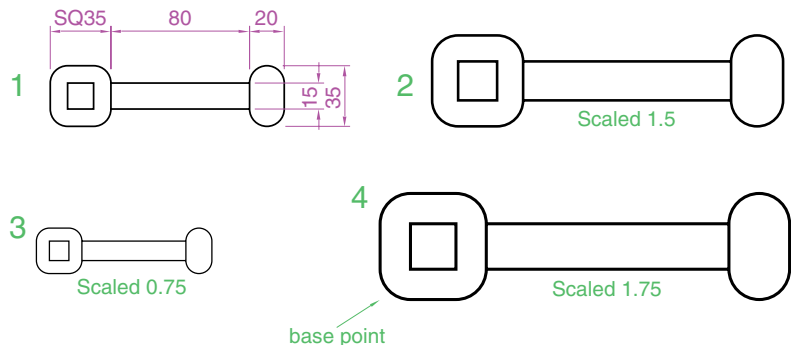

Fig. 5.29 Examples – **Scale**
Examples – Scale (Fig. 5.29)
- Using the **Rectangle** and **Polyline** tools, construct drawing **1** of Fig. 5.29. The **Rectangle** fillets are R10. The line width of all parts is **1**. Copy the drawing 3 times to give drawings **2**, **3** and **4**.
The results are shown in Fig. 5.29.